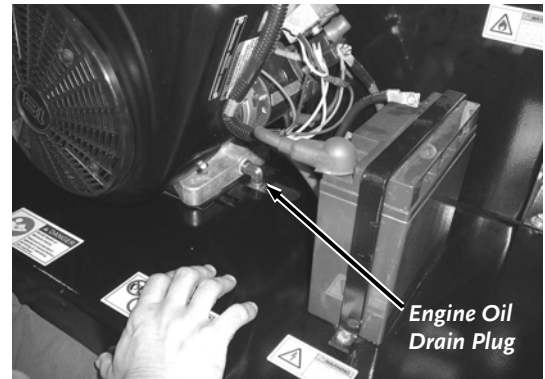
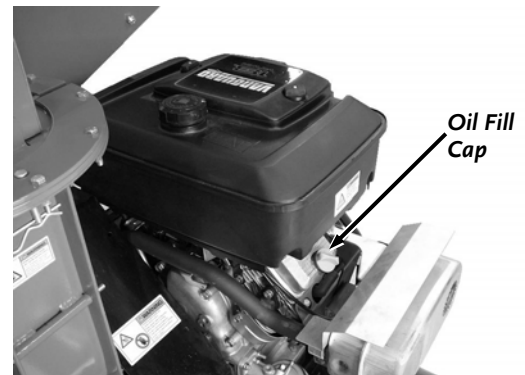

Figure 22
Figure 23
1. Position a suitable oil receptacle under the engine oil Drain Plug (**Figure 22**) and remove the Oil Fill Cap (**Figure 23**).
2. Remove the Oil Drain Plug from the Oil Drain Elbow with a 7/8" wrench (**Figure 22**). Allow the used oil to drain completely, and then replace the Oil Drain Plug.